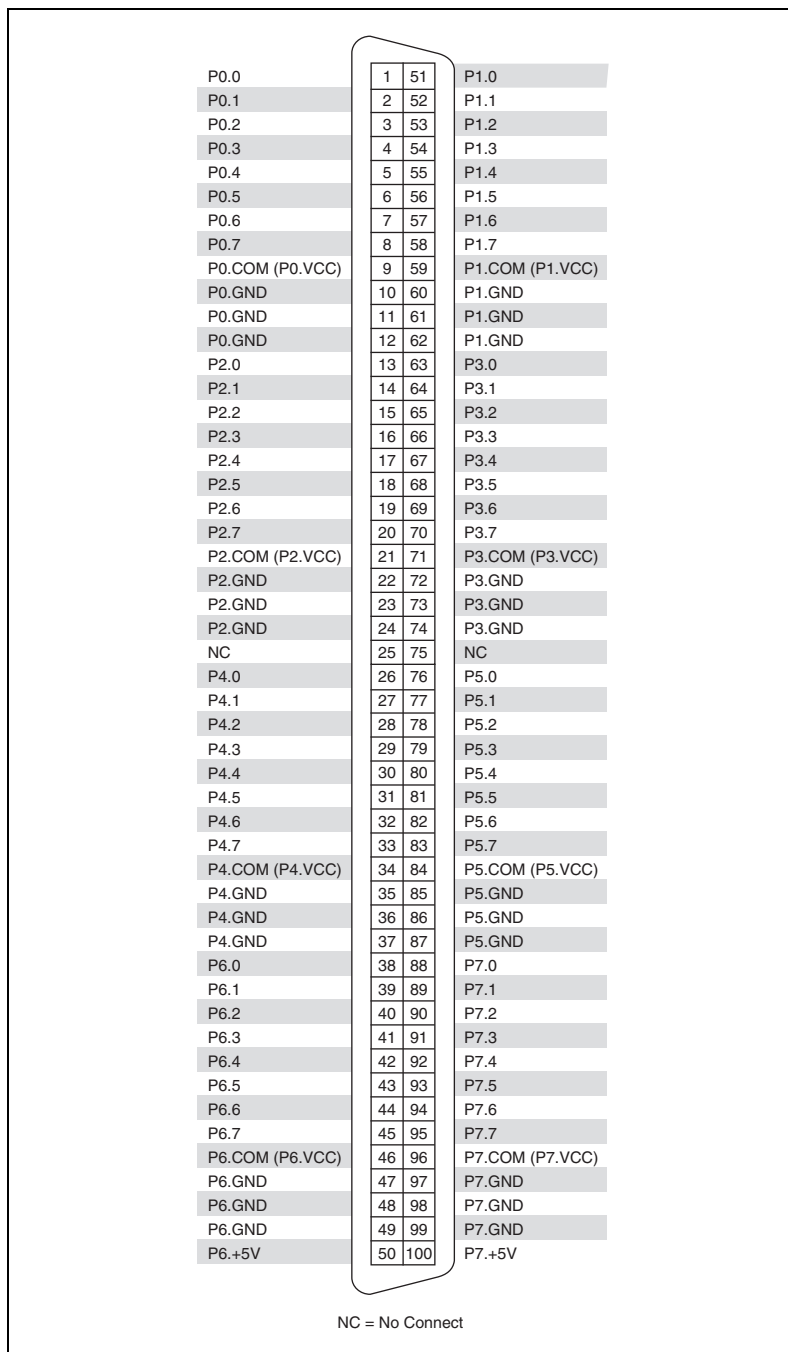

Figure 3-6. NI 6513 Pin Assignments for the SH100-100-F Cable
Figure 3-6 shows the pin assignments for the SH100-100-F cable when connecting to the NI 6513 device. The naming convention for each pin is $PX.Y$, where X is the port (P) number, and Y is the line number or name.